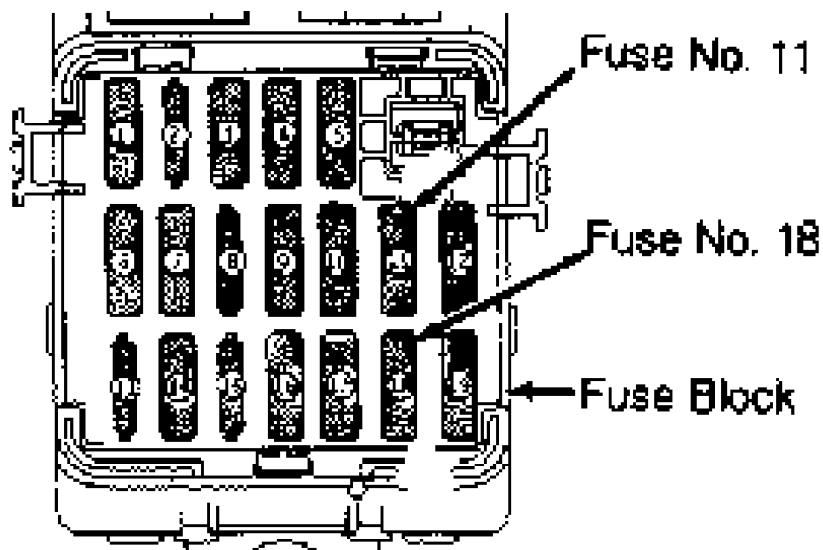

Fig. 10: Locating Fuses No. 11 & 18
**NOTE:** Ensure fuses No. 11 and 18 are okay. See Fig. 10. Ensure battery is fully charged. If battery voltage is too low, SRS warning light will come on. When battery voltage is restored to normal, light will go out. Codes remain stored for no more than about 7 days. Codes can be stored no more than 250 times. After servicing, reconnect negative battery cable. Erase codes using Multi-Use Tester II (MUT-II, MB991502). Check SRS warning light to verify system operation. See SYSTEM OPERATION CHECK.